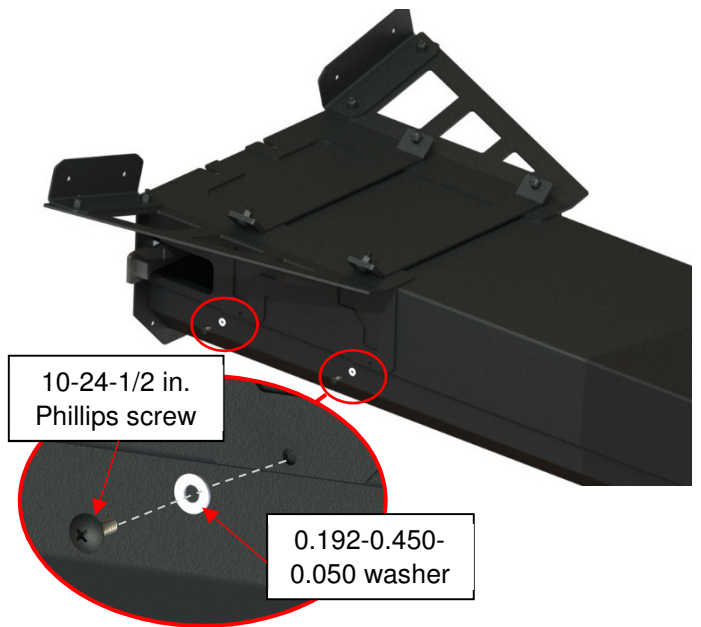

Figure 67
11) Secure both side brackets with two 10-24 x 1/2 in. thread cutting Phillips screws and 0.192-0.450-0.050 in. washers. Ensure to use the correct washers (thickness: ~0.05-0.062 in) and do NOT overtighten. (Figure 67)
- ◆ Ensure the 0.192-0.450-0.50 in. washers are positioned as shown in Figure 67. Failure to follow this instruction will damage the middle sleeve.